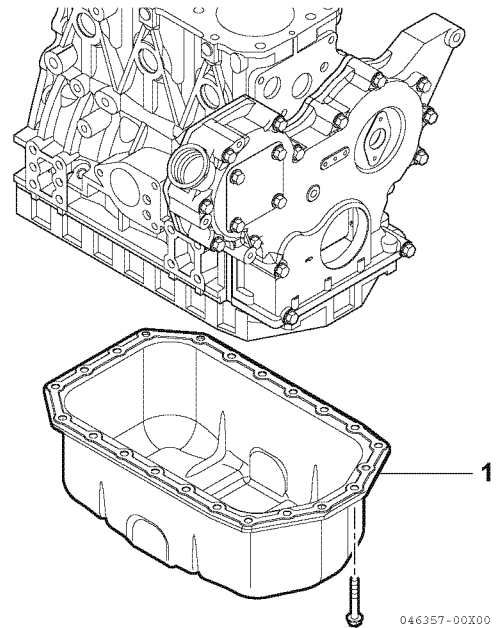

Figure 6-46
2. Remove the oil pan (Figure 6-46, (1)).